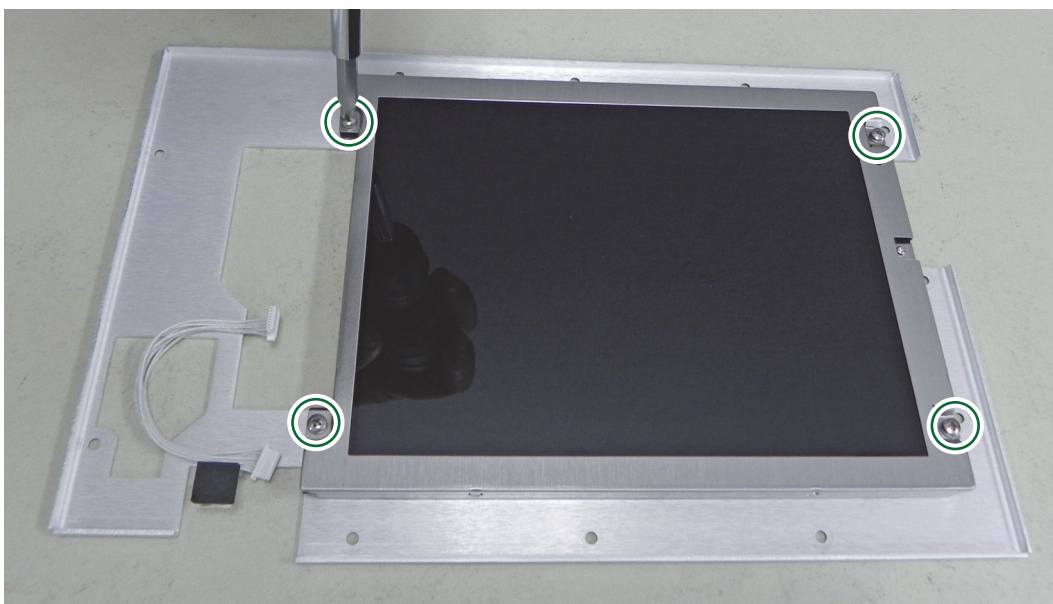

Figure 5-29. Replace LCD
11. Remove the 4 screws holding the LCD Display to the bracket (Figure 5-29)..